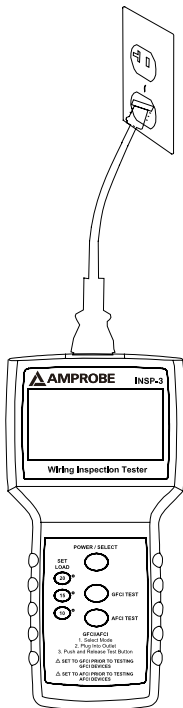

Fig.1
2. Plug the INSP-3 wiring inspection tester into an energized 120V wall outlet using the power cord provided. Refer to Fig.1